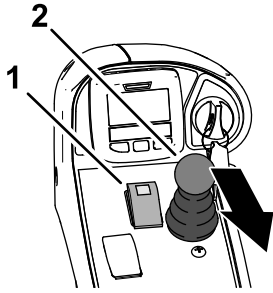

Figure 57
1. Press the PTO switch to the DISENGAGE position (Figure 57).